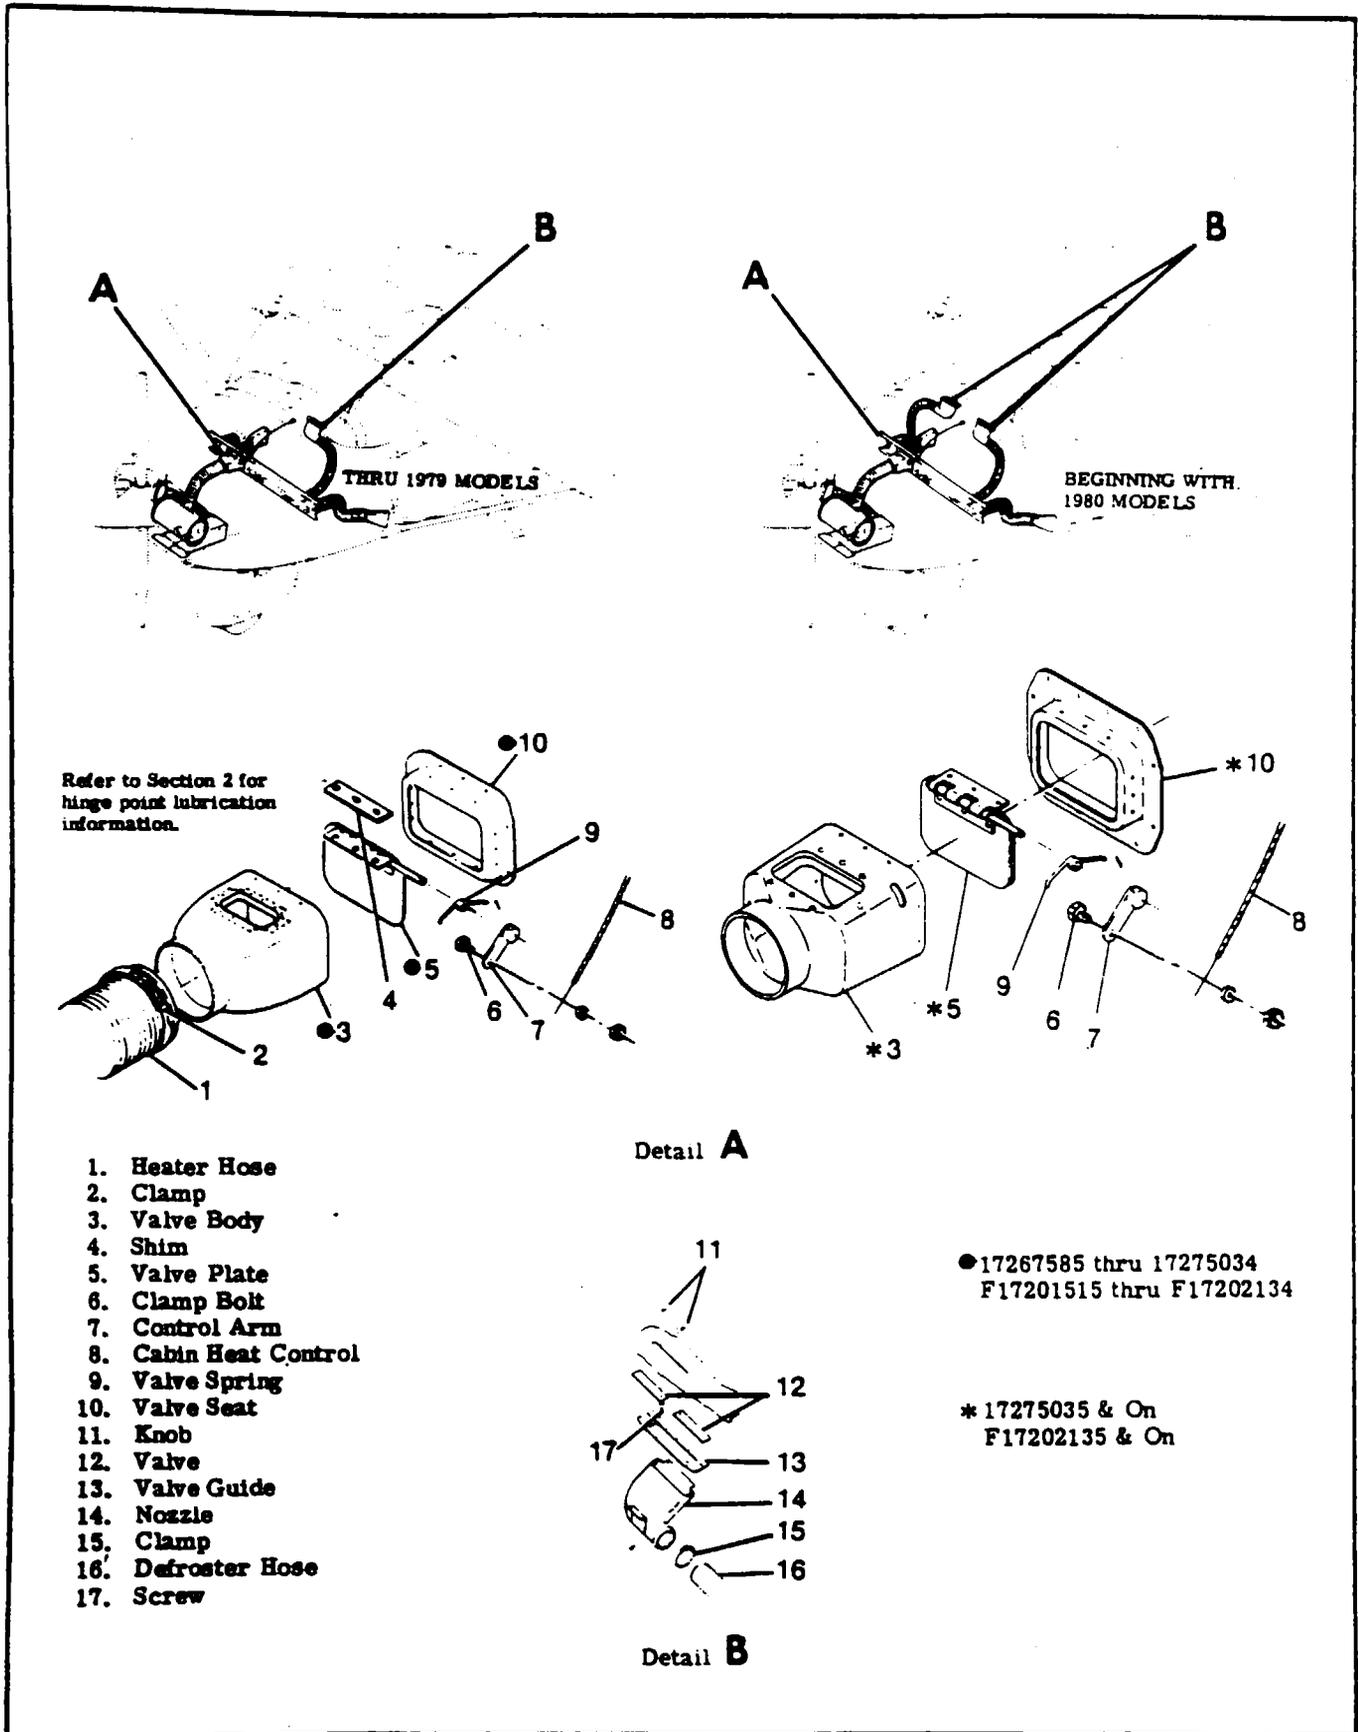

Figure 14-1. Heating and Defrosting Systems
14-2. HEATING SYSTEM. (See figure 14-1.)
14-6. REMOVAL, REPAIR AND INSTALLATION. The heating and defrosting systems are illustrated in figure 14-1. The figure may be used as a guide for removal, repair or
- 14-7. DEFROSTER SYSTEM. (See figure 14-1.)
- 14-11. REMOVAL, REPAIR AND INSTALLATION. The defroster system is illustrated in figure 14-1 in conjunction with the heating system. The figure may be used as a guide for removal, repair or installation of system components. Burned, frayed or crushed hose must be replaced with new hose, cut to correct length and installed in the original routing. Trim hose windings shorter than complete hose length to allow clamps to be installed. A defective defroster outlet should be repaired or replaced. Check for correct operation of control after repair and/or installation.